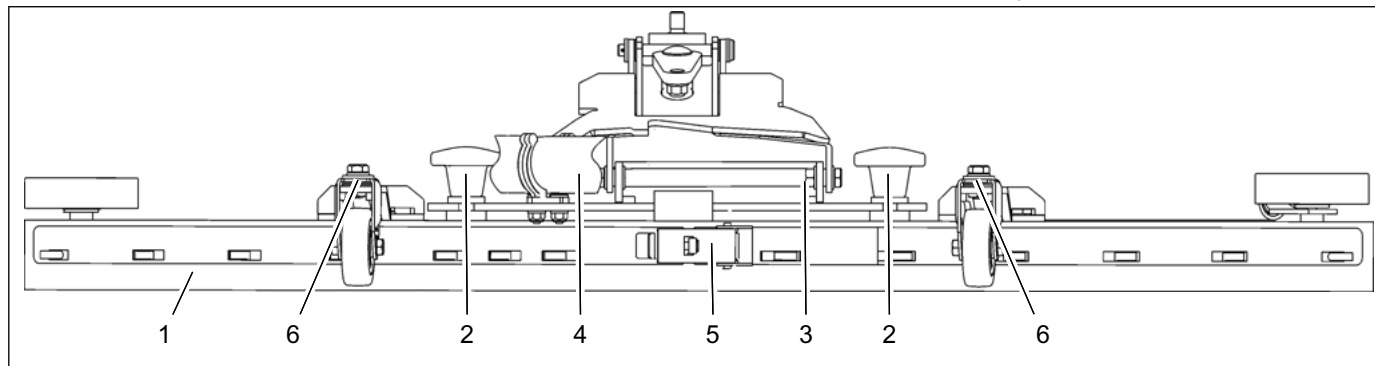

Fig.10
Check the squeegee (Fig. 10/1) daily and clean as necessary.
To clean it lift the squeegee out, pull off the suction hose (Fig. 10/4), loosen the two star-shaped knobs (Fig. 10/2) and remove the squeegee.
Check the inner and outer sealing strips on the squeegee (Fig. 10/1) weekly for signs of wear. The sealing strips can be used fourfold by turning them.
3. Unlock the fastening device (Fig. 10/5) and remove the outer sealing strip. Turn the sealing strip or install a new one, as necessary. Change the inner sealing strip in the same way.